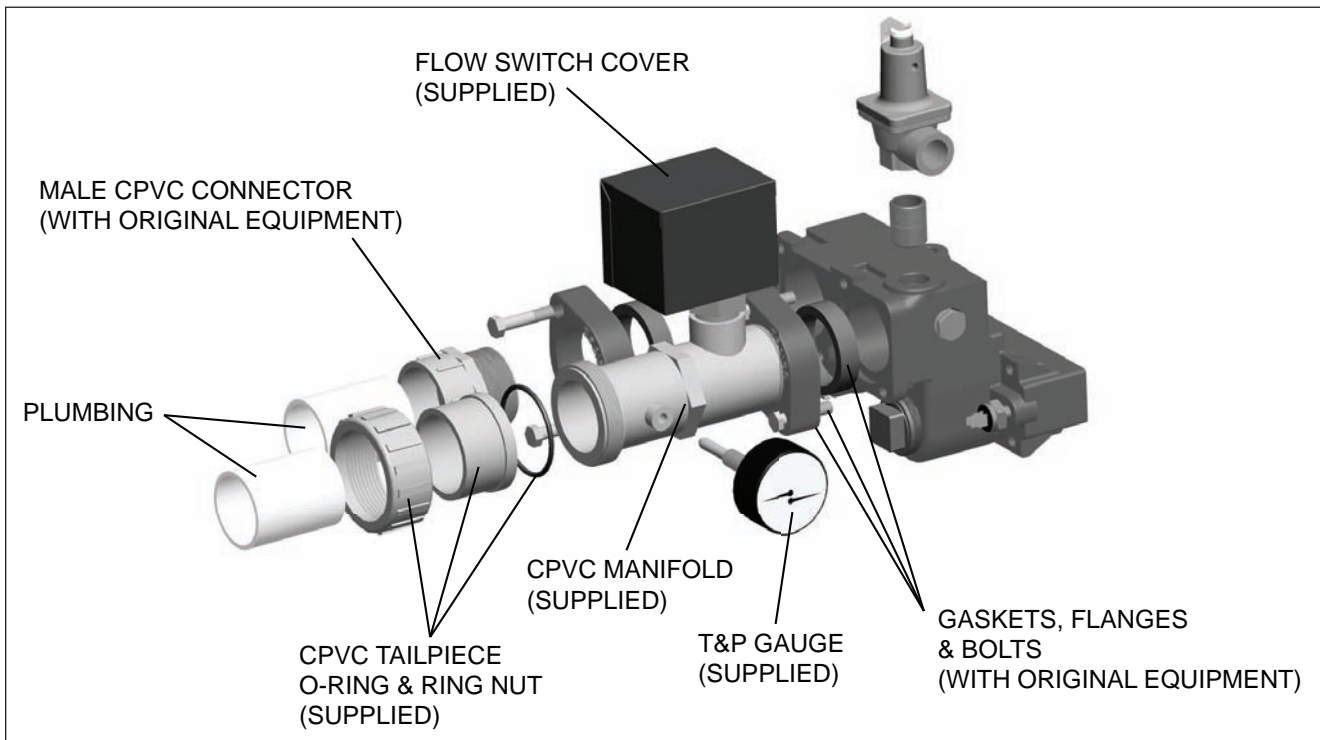

Fig. 1: Flow Switch and Temperature and Pressure Gauge
7. Locate and install the 2" CPVC manifold adapter onto the Outlet side (see Fig.1). Careful not to strip the threads on the manifold adapter.
8. Locate the flow switch, (2) paddles and (1) #6-32 screw.
13. Locate and install the T&P gauge on the side of the manifold adapter (see Fig.1).